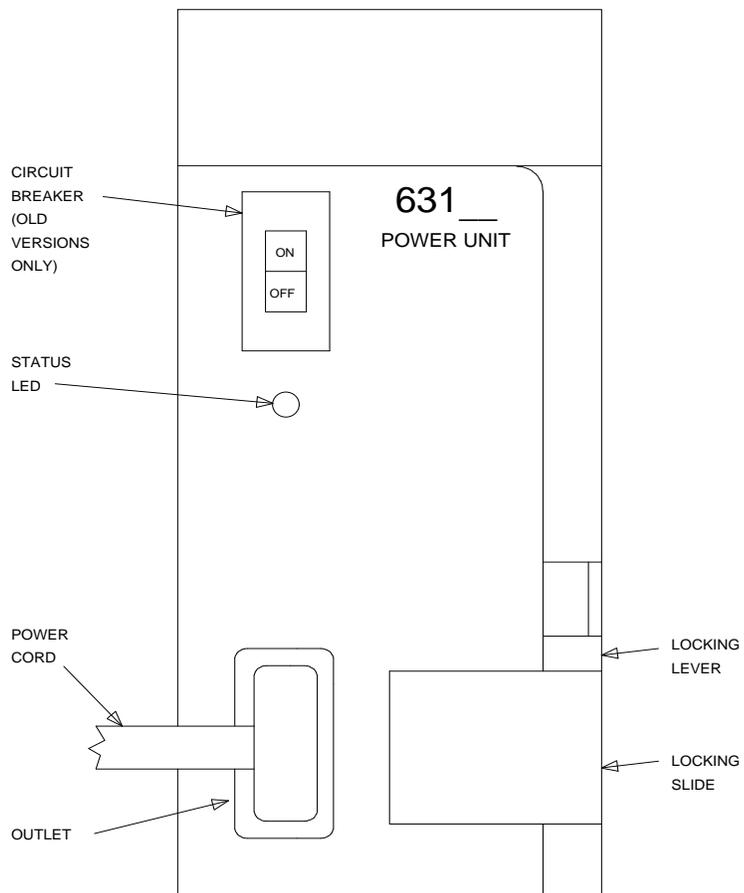

Figure 4-16. 631-Type Power Unit
15. Connect the power cords to the power units. The power cords are the white cables equipped with plugs that are run through the slots in the front of each carrier (See Figure 4-16).